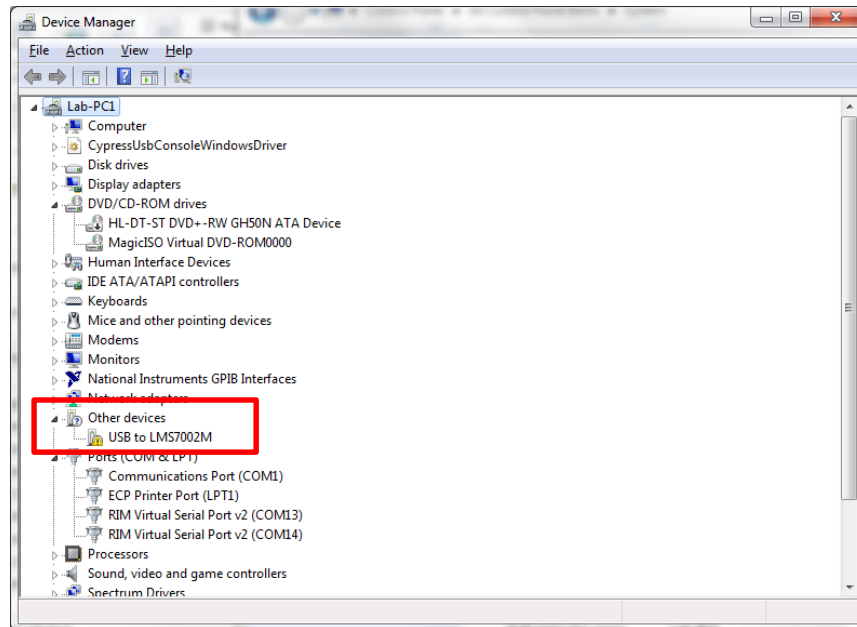

Figure 42 Device Manager content
3. Locate **USB to LMS7002M** under **Other devices** and press right click to select **Properties**, see *Figure 42*.